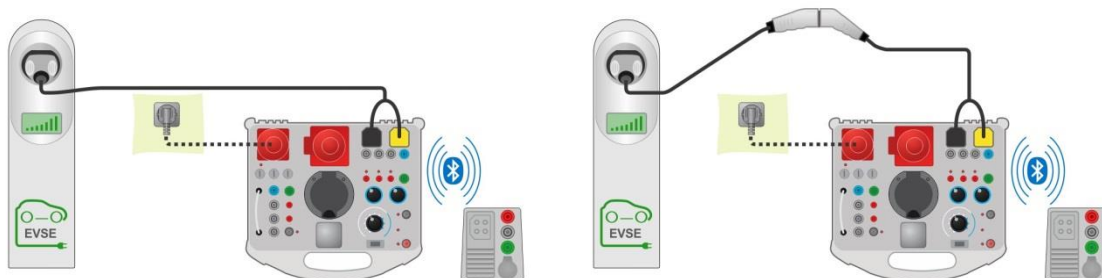
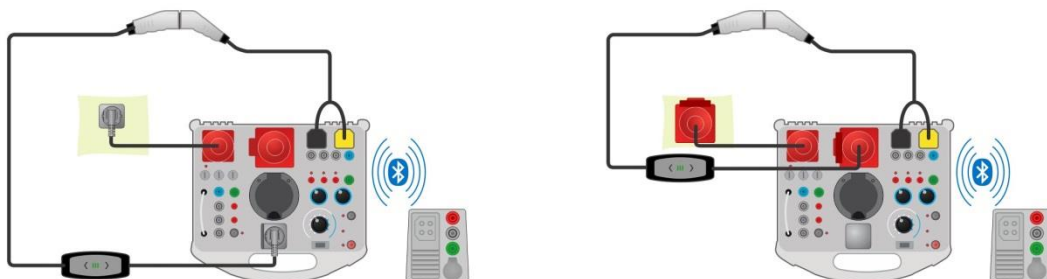

Figure 5.7: Diagnostic test - EV simulator test connection to the Mode 3 EVSE
Figure 5.8: Diagnostic test - EV simulator test connection to the Mode 2 charging cable - Remote connection
Refer to *Figure 5.7* and *Figure 5.8* for test connections.
- › Connect the charging cable /station to the eMobility Analyser (see *Figure 5.7* and *Figure 5.8*).
- › Connect the charging cable to the eMobility Analyser (see *Figure 5.8*).